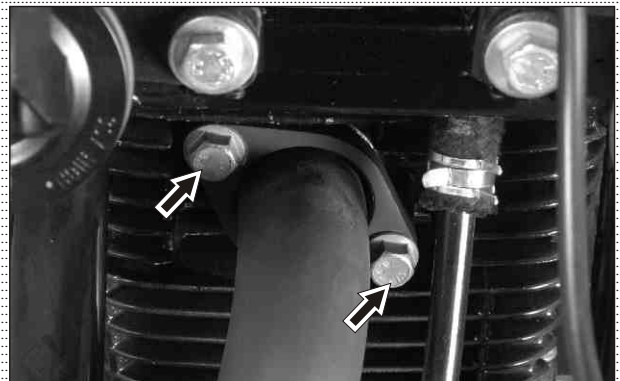

Fig. 3.37
- Remove hexagonal flange bolt (M8x25 - 2 nos) from the muffler complete front mounting. (Fig. 3.37)